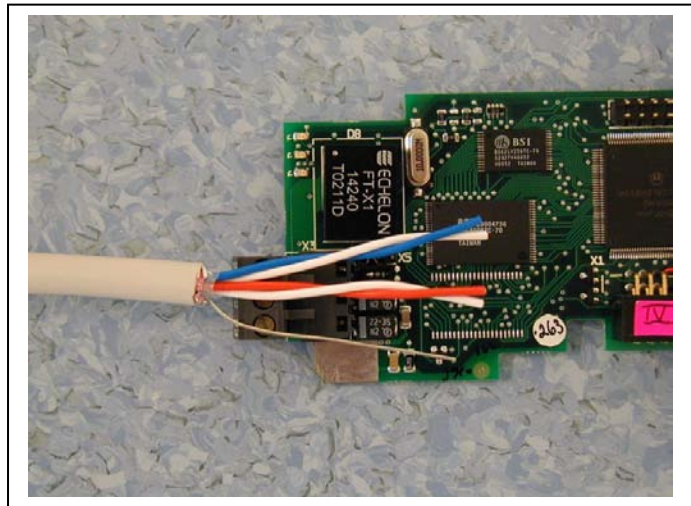
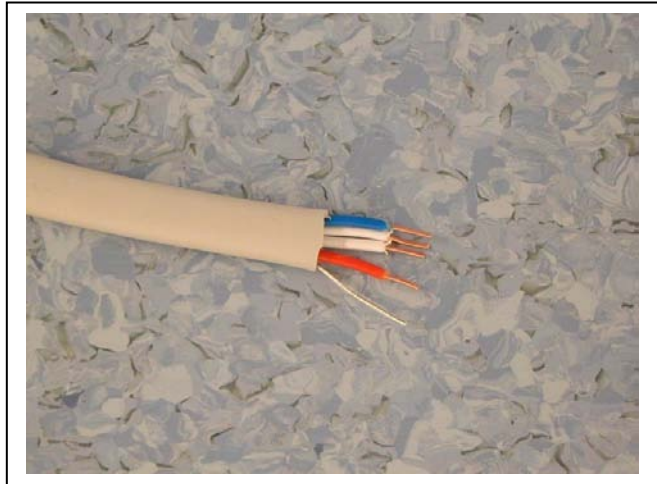

Figure 3-3.
Figure 3-4.
- 2 Leave no more than 7 mm of the data cable outside the terminal block (Figure 3-3) and strip the data cables at about 5 mm to fit in the terminals (Figure 3-4).